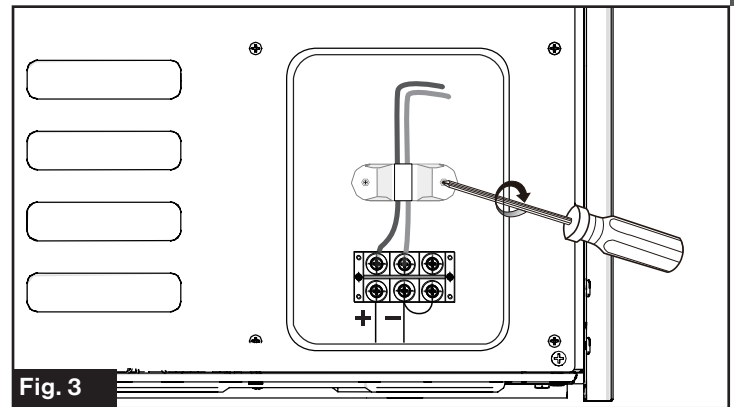

Fig. 3
4. Fix the cable with the strain relief and replace the connector cover. (Fig. 3)